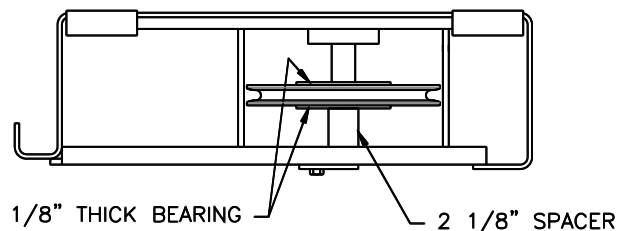

Fig 5 – Runway Single-Stack (typical for front of power runway and front & rear of idler)
- 7) Reinstall the cross beam sheaves (one thin plastic bearing on each side of each sheave) and the idler runway sheaves (2 1/8" long spacer bushing on the bottom then 1/8" thick bearing, sheave, and 1/8" thick bearing, Fig 5).